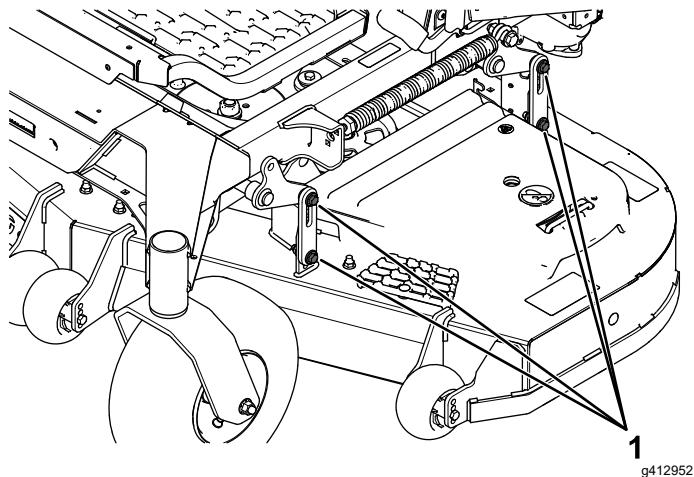

Figure 104
16. Loosen the bolts (Figure 104) on all 4 corners and ensure that the mower deck is sitting securely on all 4 blocks.